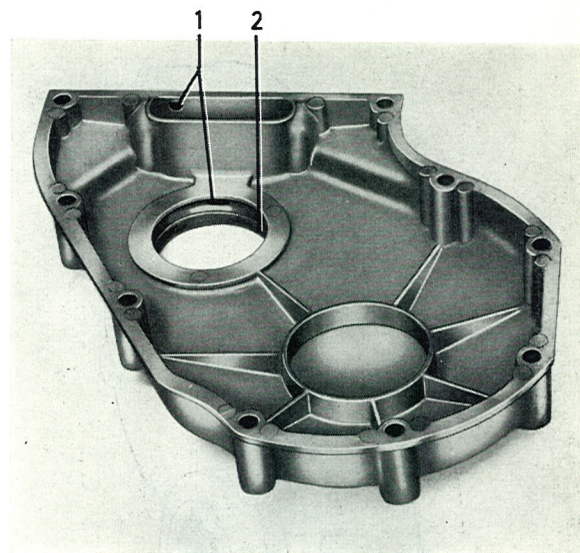

Fig. 2-42. Timing gear casing
4. Make sure that the gaskets are in good condition and that the drain hole is open and clean inside the timing gear casing which is to be fitted, see Fig. 2-42.